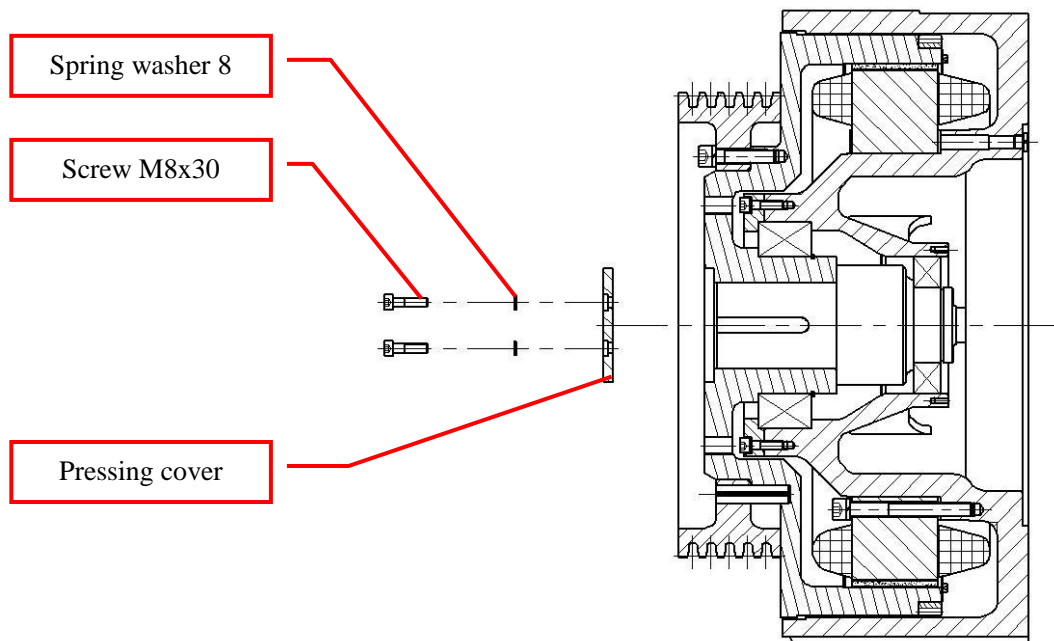

Figure 55: Install Pressing cover
- Install the pressing cover onto the end face of the sheave, and install the screws M8x30 and lock washers 8 into the corresponding threaded holes (apply some thread locker into the threaded holes), then tighten the screws M8x30 to 20Nm. See Figure 55.